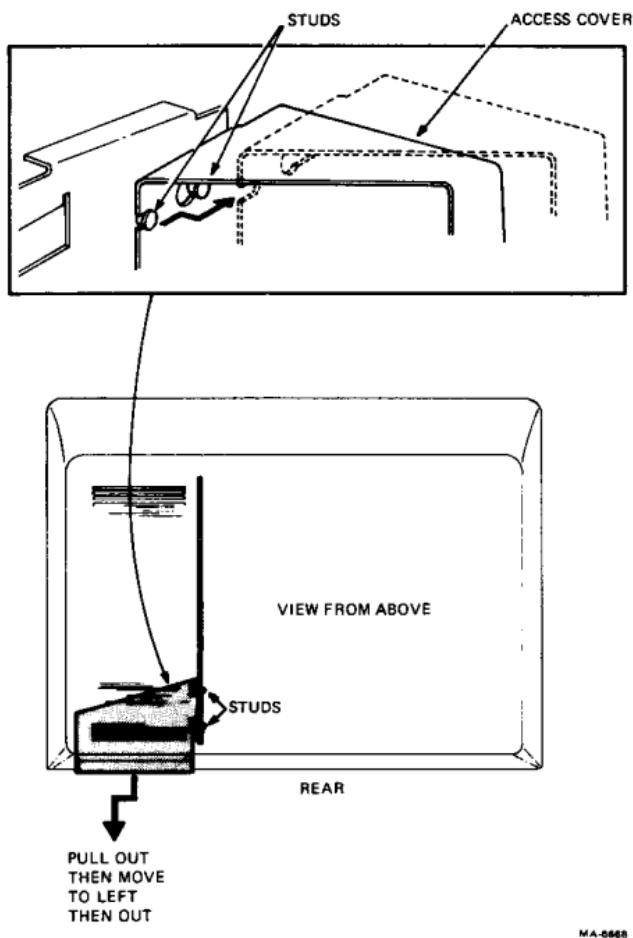

Figure 2-4 Access Cover Removal
6. Loosen the two captive screws holding the access cover. Begin removing the cover by pulling straight back (Figure 2-4). When the access cover is loose, hold it straight and move it to the left in order to avoid the studs on the inside chassis. Pull the access cover straight out. If the 20 mA current loop option is installed, remove the connector from the terminal controller board (J5) as shown in Figure 2-5.